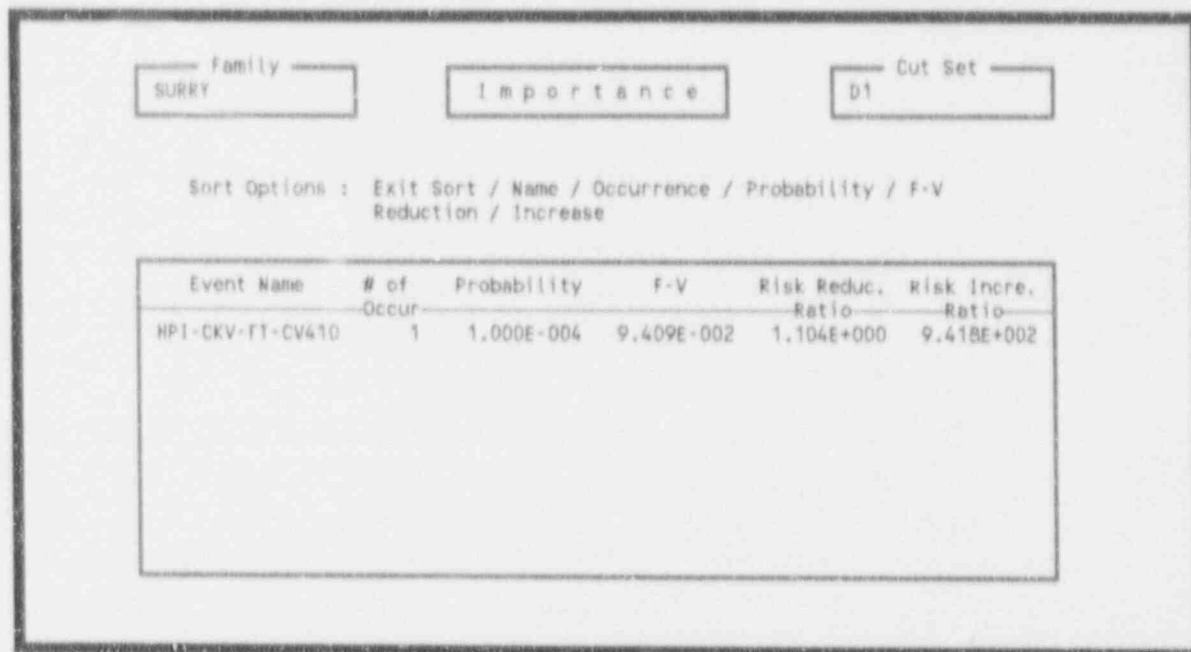

Figure 62. Importance measures sorted by probability.
**3.4.1.5.5 Sort**—When you invoke this option, Figure 62 will be displayed. As shown, the data can be sorted by the following: Name, Occurrence, Probability, F-V, Reduction, and Increase.